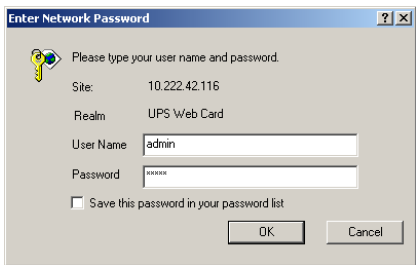

Figure 4. Log In Screen
- 3. Select **Become Superuser** and log in with the *Username* and *Password*. The default username and password is admin (see Figure 4).